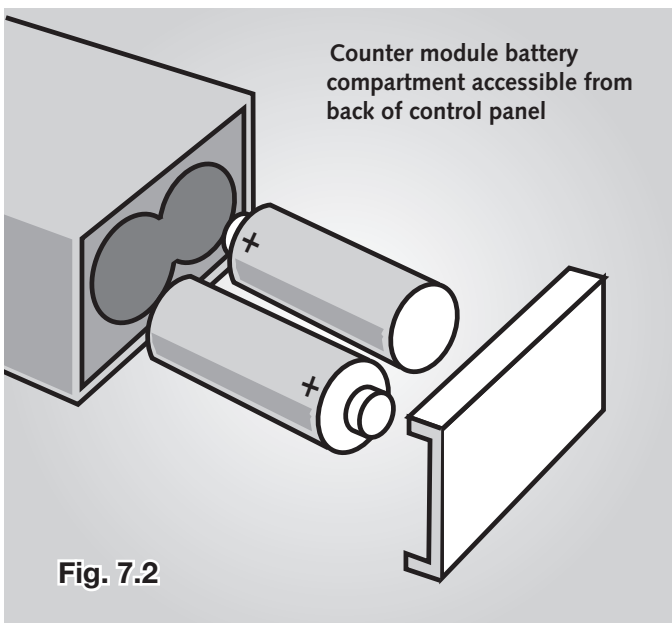

Fig. 7.2
- If there is no display in the seconds counter, replace the “N” cell batteries in the counter *(See Fig. 7.2).
* The “N” cell batteries should be replaced EVERY five years (See Fig. 7.2).